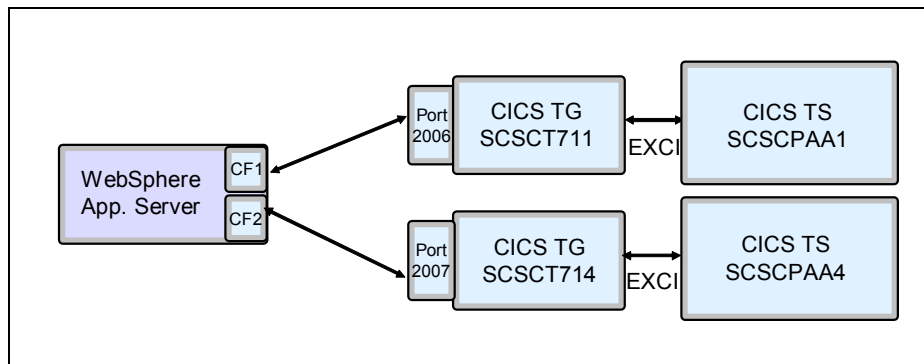

Figure 7-68 XA 2PC configuration
1. At the CICS TG level, we have to switch the port sharing configuration to two stand-alone Gateway daemons, where each is independent and listening on different TCP/IP ports. In our new scenario, CICS TG SCSCT711 will listen on port 2007, and CICS TG SCSCT714 on port 2008 (Figure 7-68 on page 285).